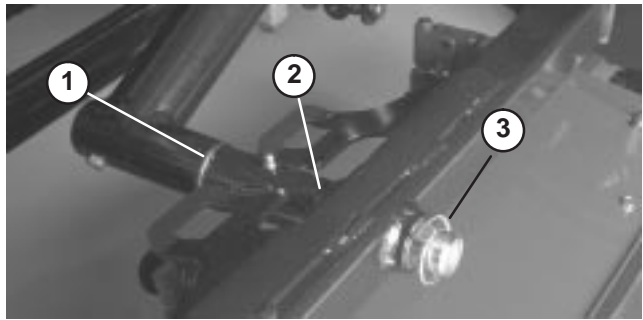

Figure 19
- Slide cutting unit carrier frame onto pivot rod and secure with a lynch pin (Fig. 19).